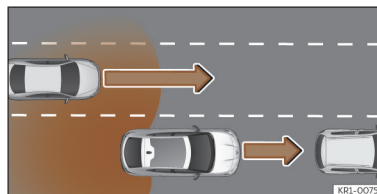

Fig. 153 Overtaking with traffic behind the vehicle.
- When being overtaken by another vehicle >>> **Fig. 153**.